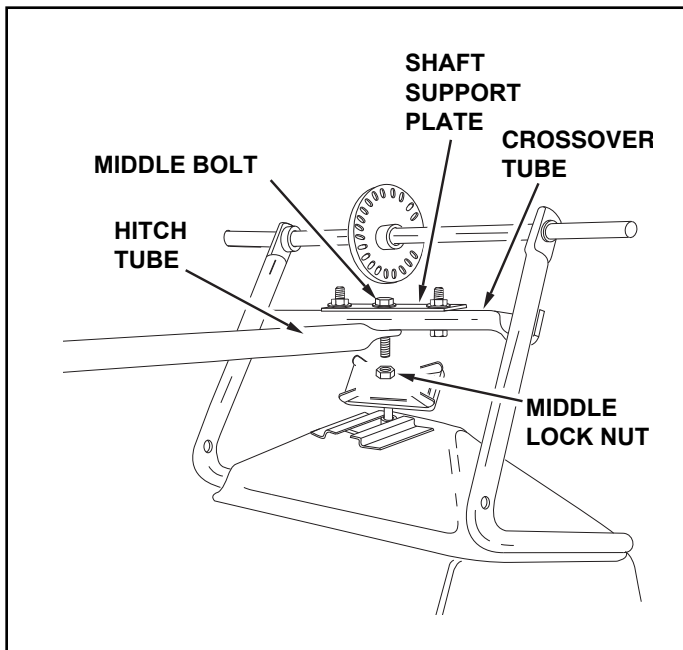

FIGURE 1
1. Turn the spreader upside down as shown in figure 1.
2. Remove the lock nut from the middle bolt in the crossover tube and shaft support plate. Leave the bolt in place. See figure 1.
3. Assemble the hitch tube onto the middle bolt and secure it with the same lock nut you removed. **DO NOT TIGHTEN YET.** See figure 1.